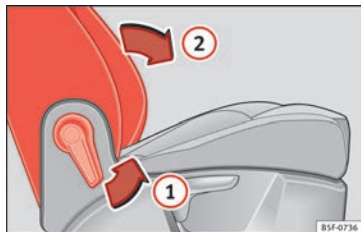

Fig. 152 Front passenger seat: lever for folding down the backrest.
- Pull lever **1** » Fig. 152 and push the seat backrest **2** until the backrest is horizontal.